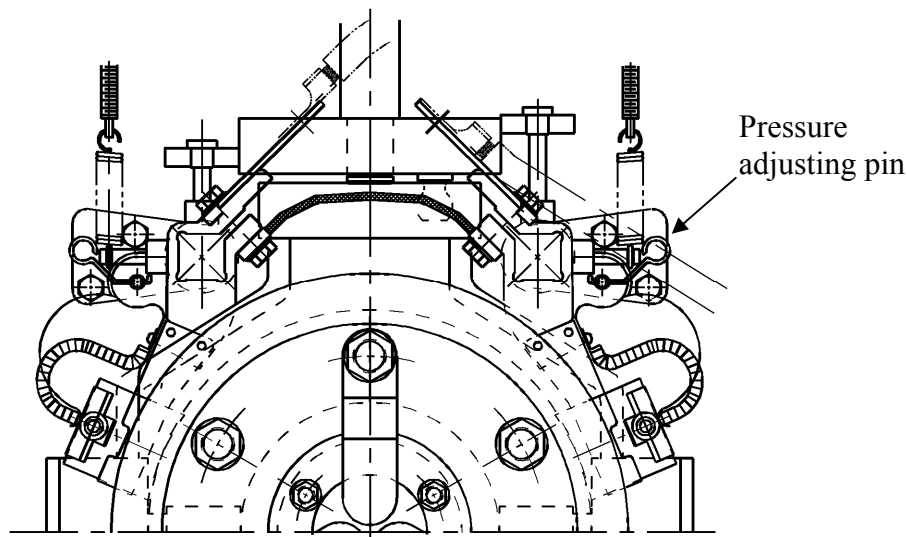

Fig. 19
- The brush pressure may be reduced after use, so it is necessary to re-adjust. For adjustment, please turn adjusting screw, pressure adjusting pin or pressure adjusting plate as shown in Fig.19 to obtain the correct tension ($=0.23 \times \text{brush cross sectional area in cm}^2$) $\pm 10\%$ kg.